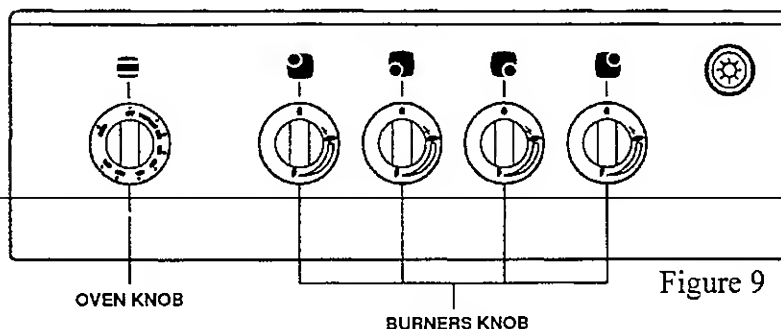

Figure 9
- The surface burners are controlled by knobs located on control panel at front side of the appliance, as seen in Figure 9.
- The oven is controlled by a knob located at left side of control panel. (See Figures 9 & 10)
The switch located at the extreme right of the control panel turns the oven light on and off (See Figure 9). When the button is depressed, the light will be on.